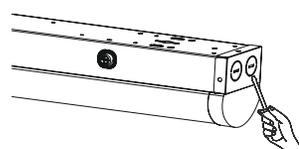

Fig. 1
2. This knuckle can be used on a wide variety of luminaires provided that they have a 12V auxiliary control available. Pick an appropriate 1/2" plug at the bottom or the side of the luminaire to install the knuckle base (Fig. 1 & 2).